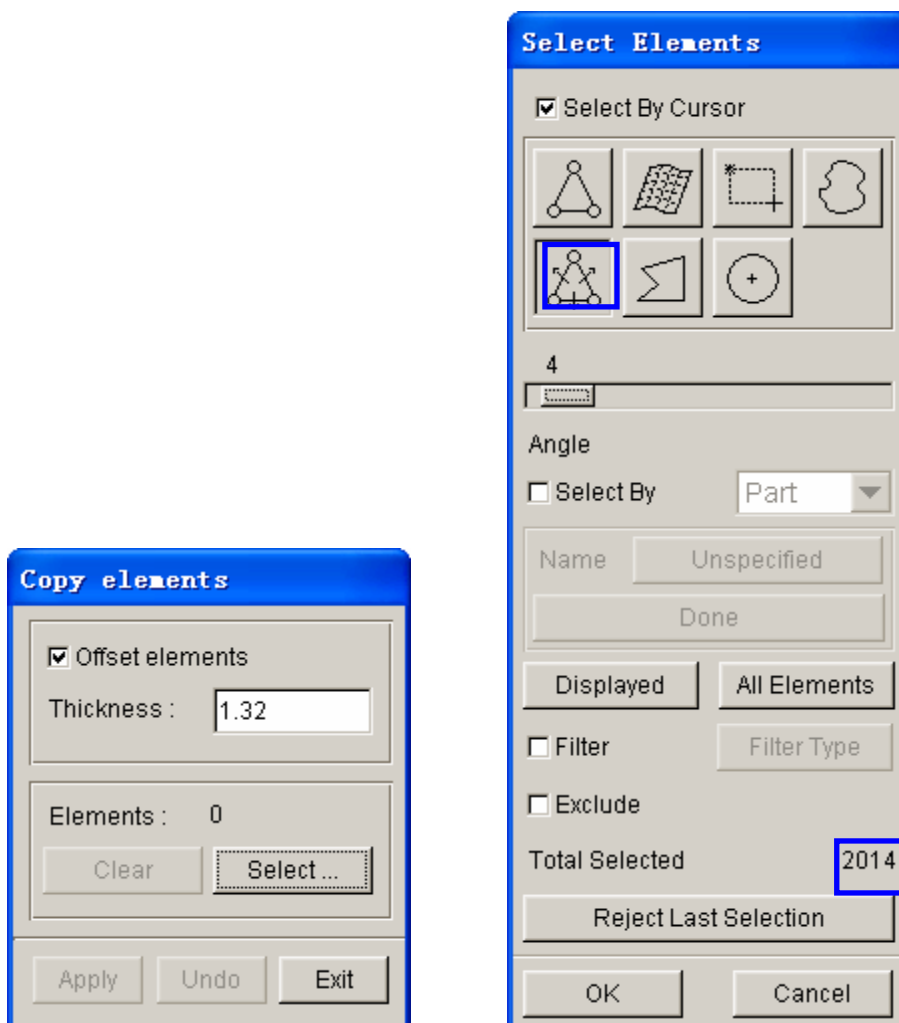

Figure 5.54 Select binder element
23. Click **Copy Elem...** button, following by pressing **Select...** button in COPY ELEMENTS dialog box illustrated in Figure 5.54.
24. From the SELECT ELEMENTS dialog box, click Spread icon illustrated in Figure 5.54. Then, use your mouse cursor to move the slider to set spread angle as **4°**.